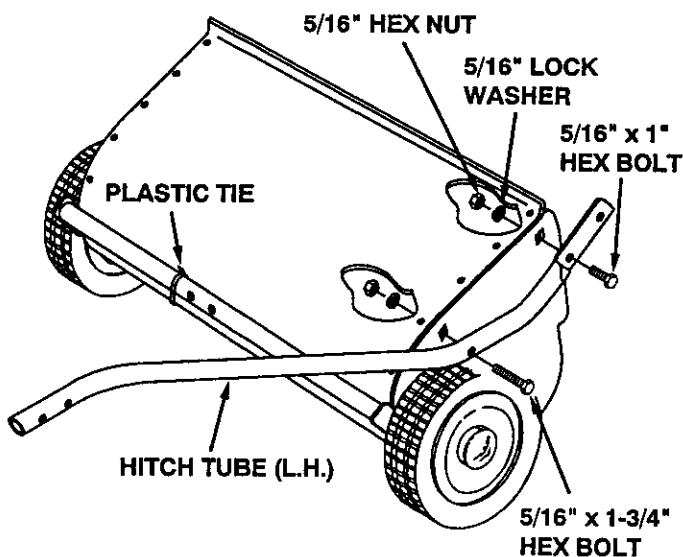

FIGURE 1
- Cut off the plastic tie holding the height adjustment tube in place. See figure 1.
- Assemble the R.H. and L.H. hitch tubes to the sweeper housing using two 5/16" x 1-3/4" hex bolts, two 5/16" x 1" hex bolts, four 5/16" lock washers and four 5/16" hex nuts. **Do not tighten yet.** See figure 1.